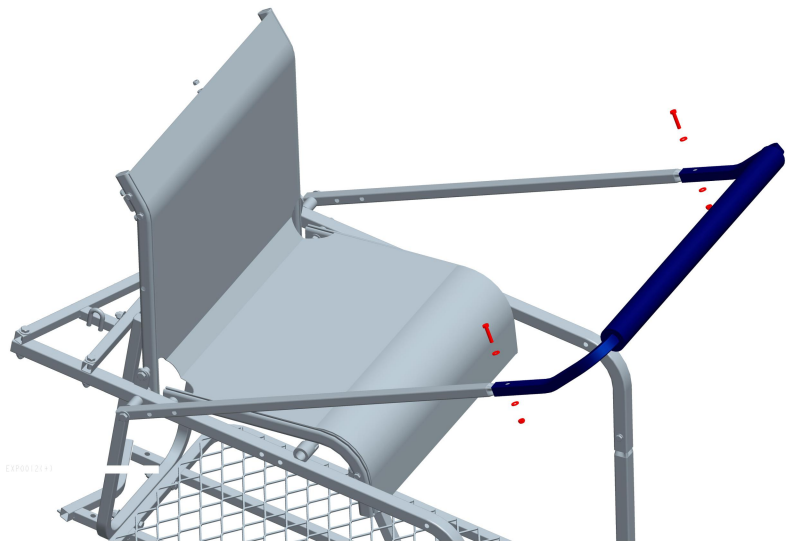

Figure 14
Locate Shooting Rail (#5). Install the Shooting Rail (#5) onto the Shooting Rail Support Bars (#4) using two (2) M6x30 Bolts, four (4) Steel Washers and two (2) Locknuts as shown in Figure 14. Securely tighten bolts.